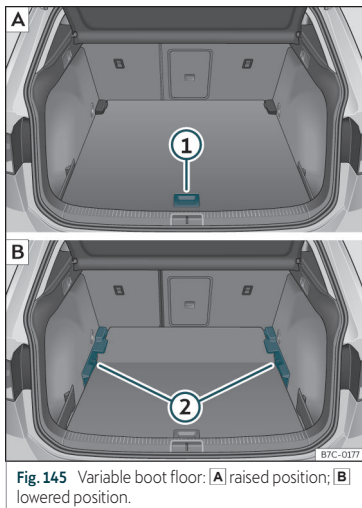

Fig. 145 Variable boot floor: **A** raised position; **B** lowered position.
- To move from the low position to the high position, lift the floor using the handle >>> **Fig. 145** ①, and pull it back until the front of the floor has fully passed the supports ②.
- Move the floor forward over the supports as far as the rear seat backrest and then lower the floor with the handle ①.
- To move from the high position to the low position, lift the floor using the handle >>> **Fig. 145** ①, and pull it back until the front of the floor has fully passed the supports ②.
- Now let the front part fall to the floor and slide the floor forwards as far as the rear seat backrest; lower the floor at the same time with the handle ①.
- Lift the variable floor in the high position using handle >>> **Fig. 145** ①, pull it up and push it towards the backrest of the rear seats until the floor folds along the hinge line and the movable part of the floor is resting on itself.
- To move from the high position to the low position, lift the floor using the handle >>> **Fig. 145** ① and pull it back a little.
- Push the variable floor towards the folded rear seats with the handle ① using some downward pressure so that the moving part of the floor is flush with the backs of the rear seats.